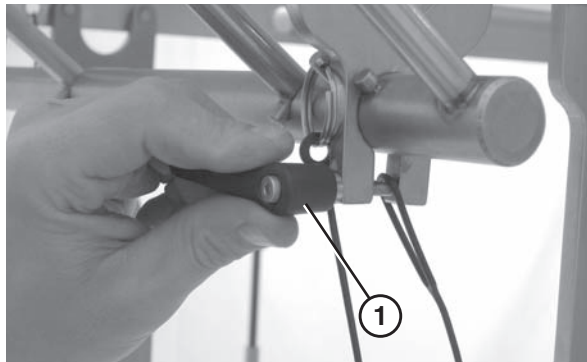

Figure 28
- Secure the scraper by tightening the handle (Figure 28, item 1).